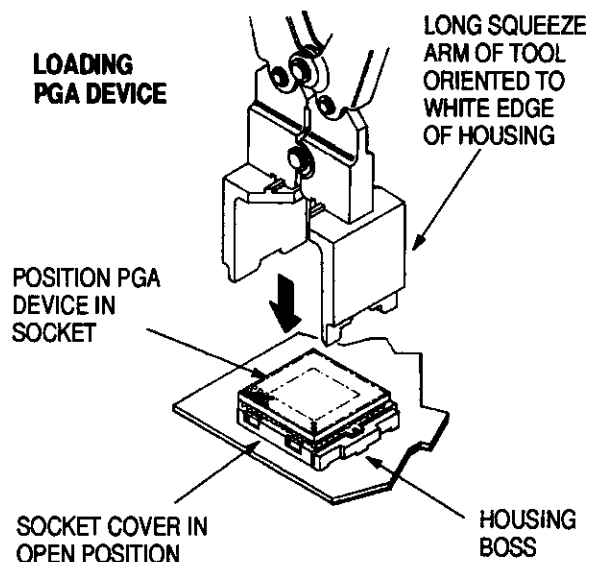

Figure 2
1. Position device in socket as shown in Figure 2. An empty socket is designed to always be in the open position.